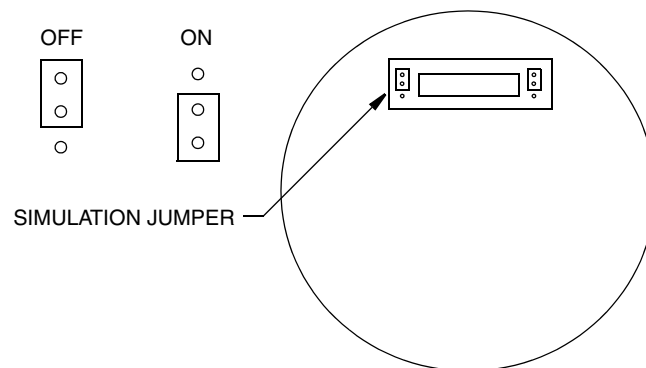

Figure 36. Simulation Jumper
3. To activate Simulation mode, move the simulation jumper to the lower position as shown in Figure 36.